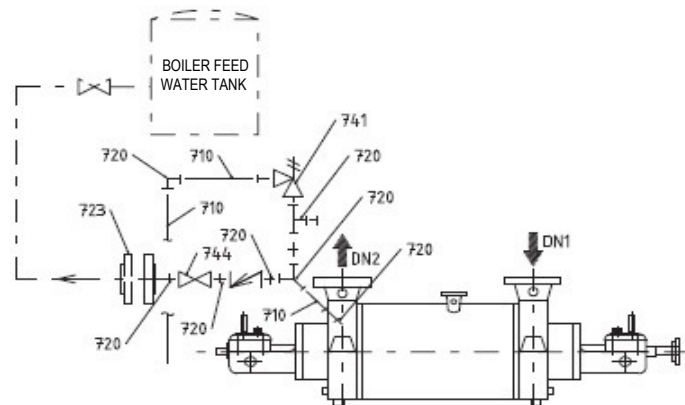

Fig.6 - Balance line piping sketch with return to the suction tank
On the back of the balance disc, between the discharge casing (107) and gland packing (451) there is a chamber where the balance piping is installed and can be returned to suction casing or tank, depending on specific conditions. See Figures 6 and 10.